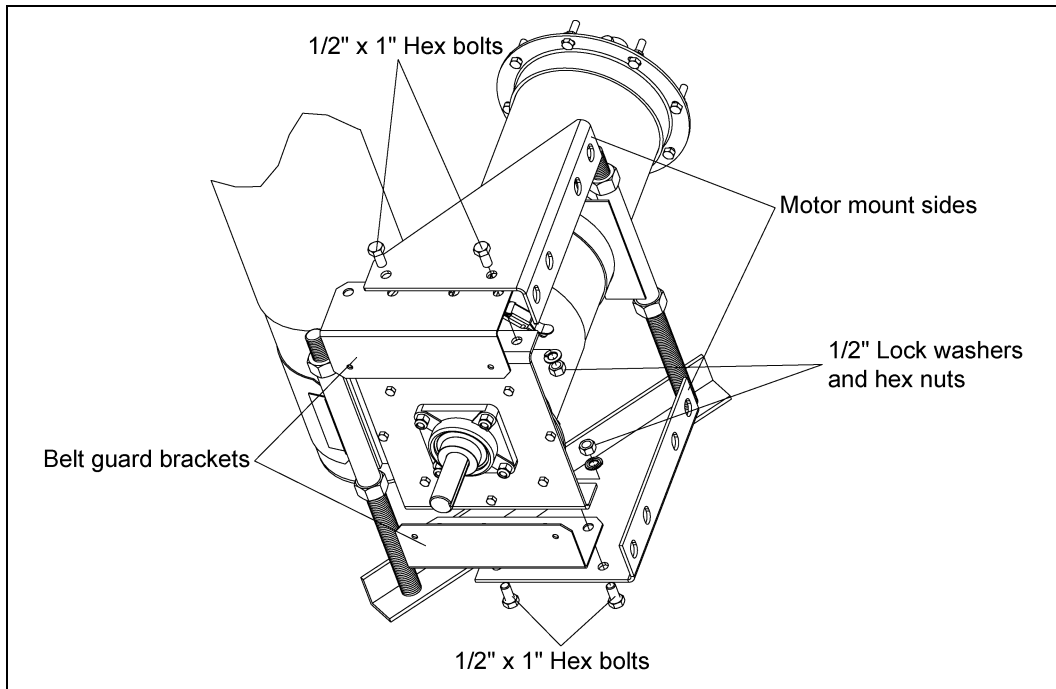

Figure 4B
6. Unbolt the four (4) 1/2" x 1" hex bolts, lock washers, and hex nuts, and remove the existing belt guard brackets and motor mount sides. (See Figure 4B.)